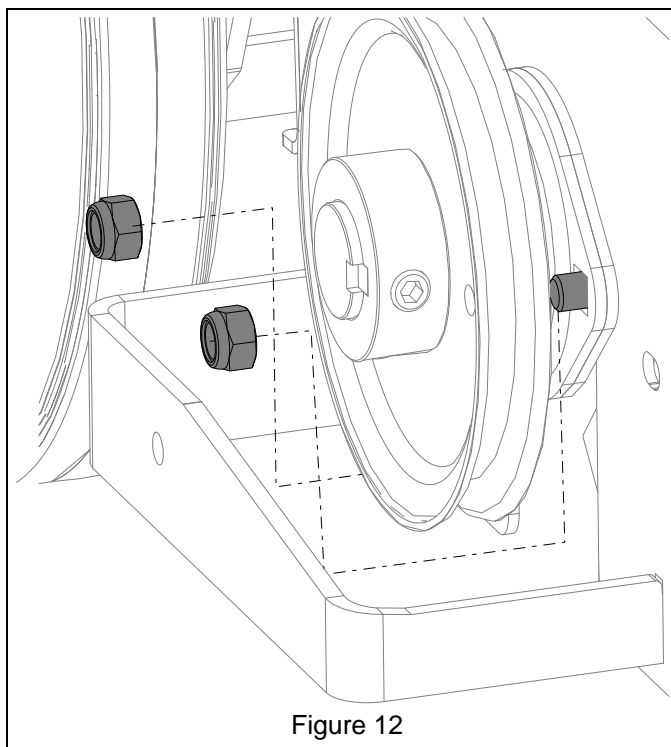

Figure 12
3. Secure the left flange bearing with hardware removed earlier. See Figure 12.